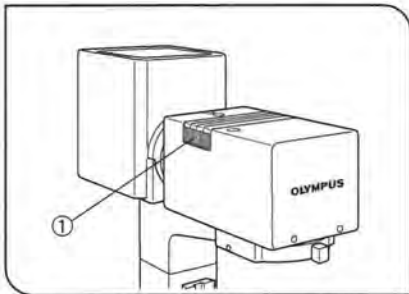

Fig. 29
(Figs. 29 to 31)
1. Place a finger on the milled section ① of the filter holder and lift it. (Fig. 29)
2. While holding the mounting lever ② of the filter holder, insert a filter.